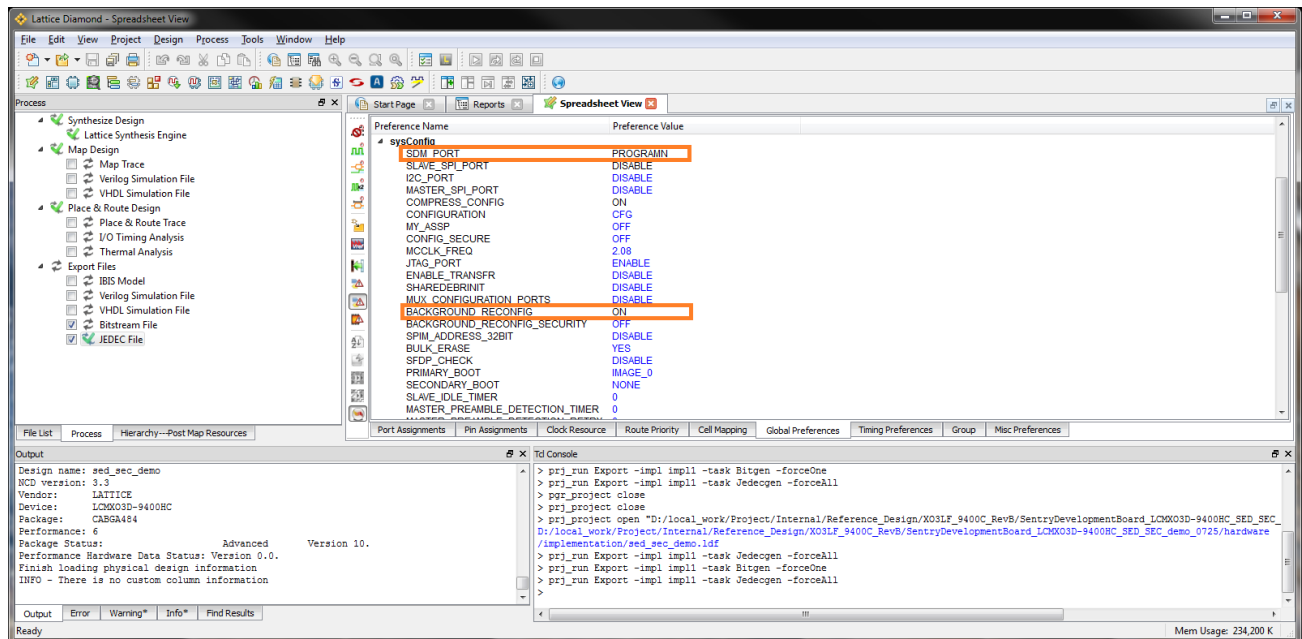

Figure 7.3. Set Global Preferences
- When you see a green check mark beside the **Synthesize Design** process in the Process view, choose **Tools > Spreadsheet View** or click the **Spreadsheet View** icon  on the toolbar to open the Spreadsheet View. In the Global Preferences tab, set **SDM_PORT** to **PROGRAMN** and **BACKGROUND_RECONFIG** to **ON**, as shown in Figure 7.3.